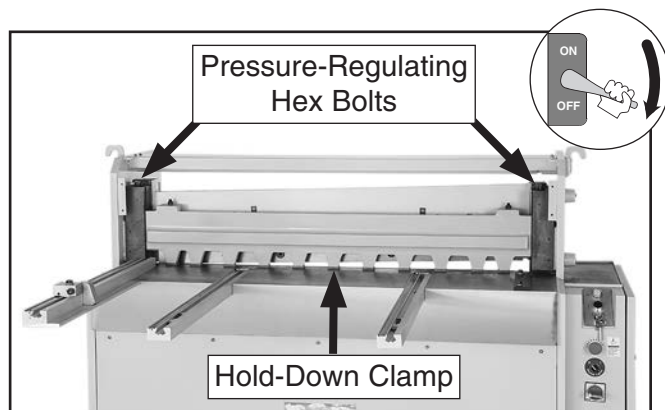

Figure 52. Pressure-regulating hex bolts on hold-down clamp.
- Loosen (2) pressure regulating hex bolts at end of hold-down clamp (see **Figure 52**).
- Evenly tighten pressure-regulating hex bolts on hold-down clamp (see **Figure 52** on **Page 39**).